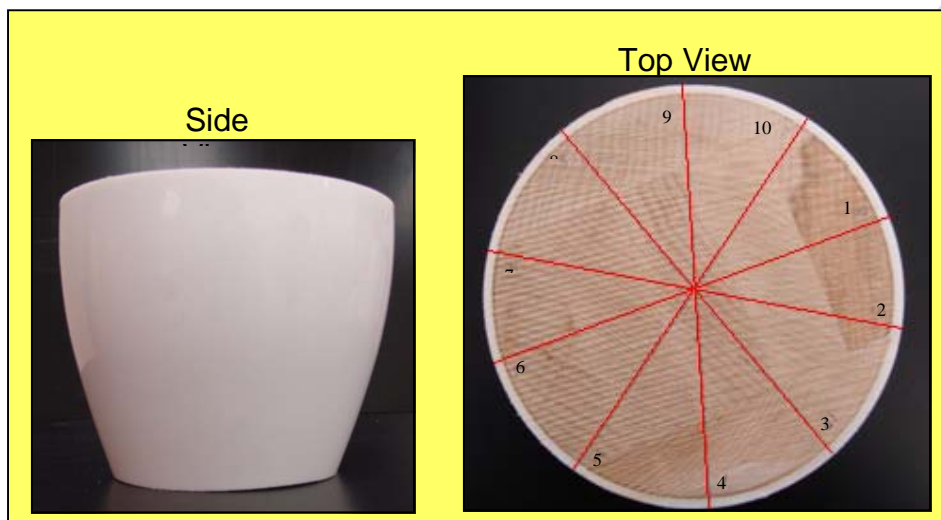

Figure 2 - Side and top view of the lower ball zone segment of the bowling pin. The top view shows the 10 divisions drawn on the segment for later analysis.
5. Set the lower ball zone segment of the bowling pin on a work surface and draw 10 “pie slices” on the top of the segment and number each section 1-10 with the pencil and straight edge as seen in figure 2.